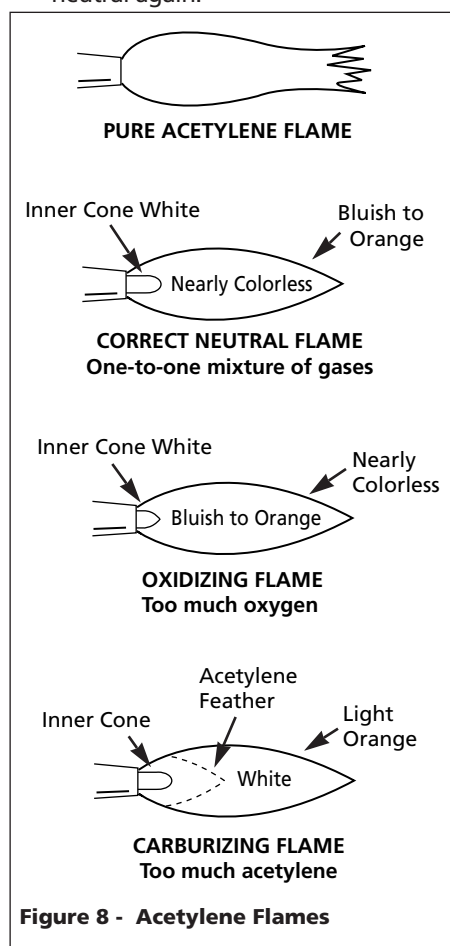

Figure 8 - Acetylene Flames
- Open the torch oxygen valve (for cutting attachment, open preheat valve) until a neutral flame appears (see Figure 8).